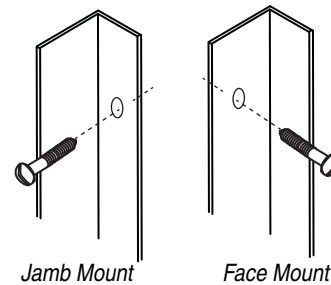

Figure 12
- ② Drill holes in "L" Angles for mounting to wall or jamb.
- ③ Attach using hardware appropriate to mounting surface and conditions (see Fig. 12).